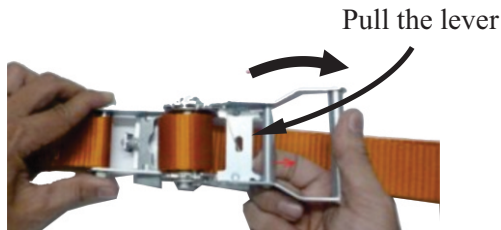

Figure 3.6
- To release or remove the strap, pull the lever firmly and open the ratchet widely (Figure 3.6).